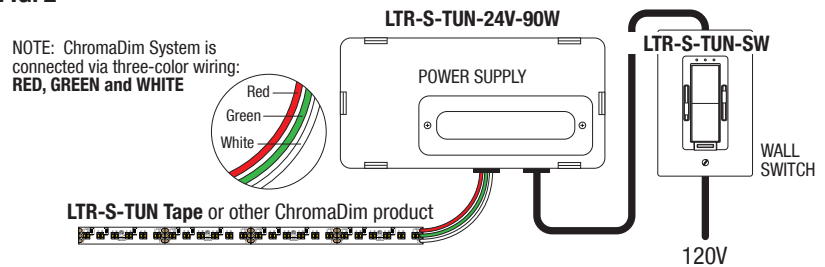

FIG. 3
2. OVERVIEW OF SYSTEM WIRING: Consult diagram of system (FIG. 2) and how each component is connected. Complex tape installations where any number of lengths are connected to a single output is possible. (FIG. 3) For example: A kitchen undercabinet and toe kick installation from a single output is possible. So is a complex display arrangement, entertainment system, or hallway. You are only limited by your imagination and a maximum of 600 total combined watts.